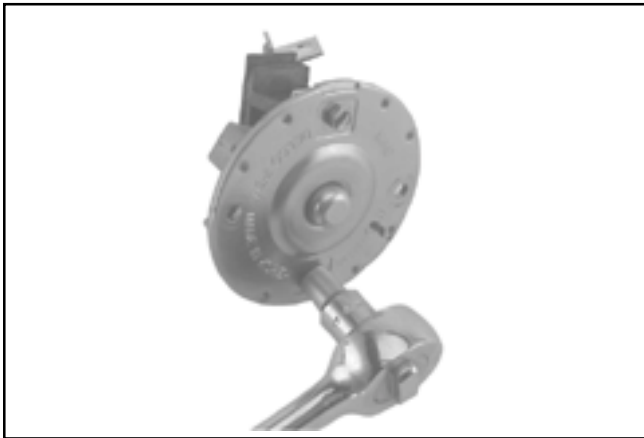

Figure 8-55. Removing Brush Holder.
2. Remove the two screws securing the brush holder assembly to the end cap (plate). Note the orientation for reassembly later. See Figure 8-55. Discard the old brush holder assembly.